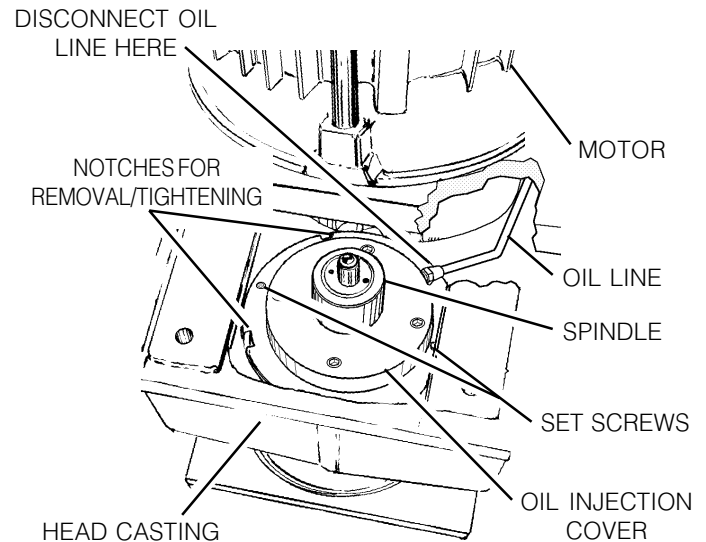

Fig. 5-1 Oil injection cover and oil line disconnect.
7. On newer models, first disconnect the **oil line** from the fitting at the **oil injection cover**, then remove the **brass fitting** (Fig. 5-1).